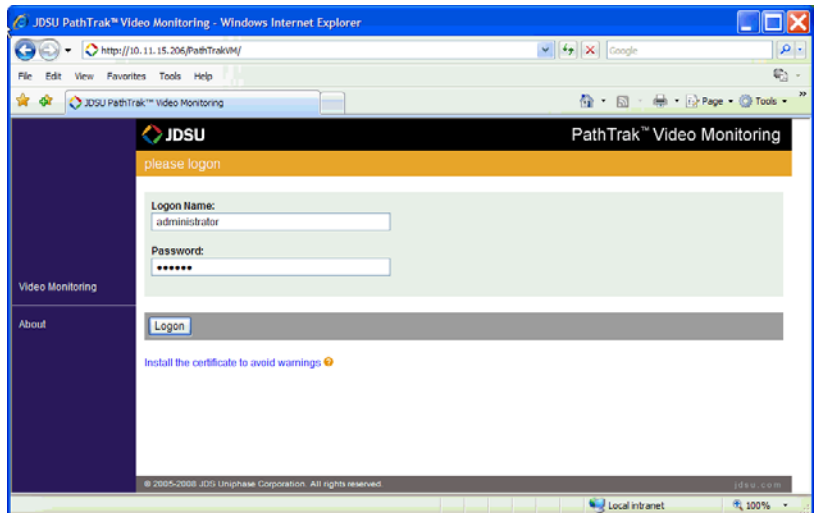

Figure 66 PathTrak™ Video Monitoring login page
- 4 On the PathTrak™ Video Monitoring logon web page Logon Name text box (Figure 66), type **your logon name or the default logon name**.